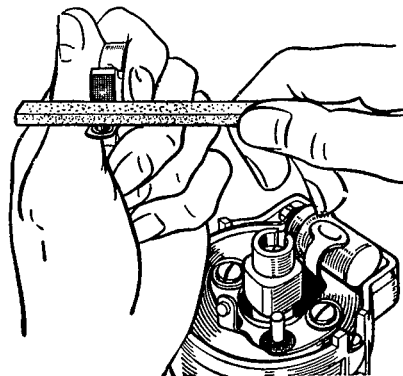

Fig. C.16.
- (b) If the contacts are dirty or pitted, they must be cleaned by polishing them with a fine carborundum stone, and afterwards wiping them with a petrol-moistened cloth. The moving contact can be removed from its mounting in order to assist cleaning. (See Fig. C.16.) Check and adjust the contact breaker setting after cleaning the contacts.